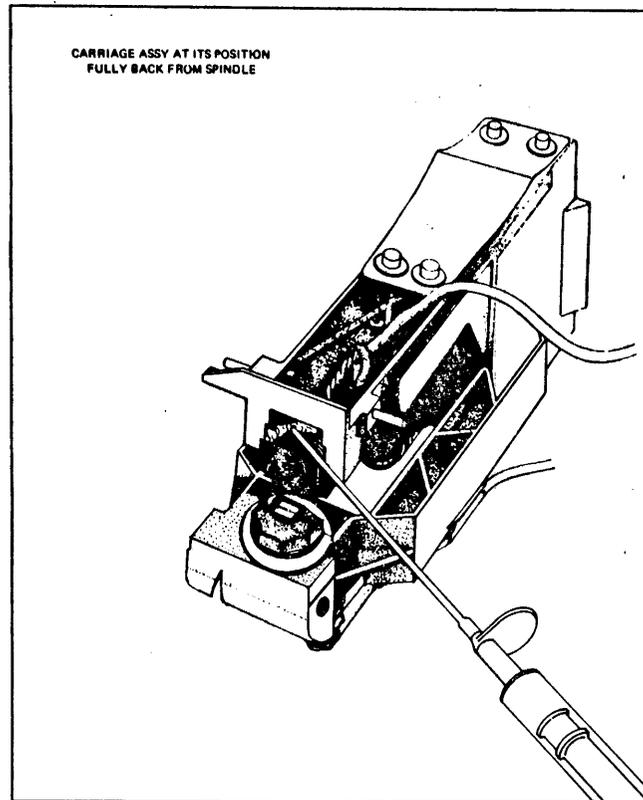

Figure 2. Applying Adhesive to Upper Head
9. Taking the utmost care, squeeze the adhesive from the syringe to make a continuous strip where the back of the head meets the carriage block. See figures 2 thru 5 for details.